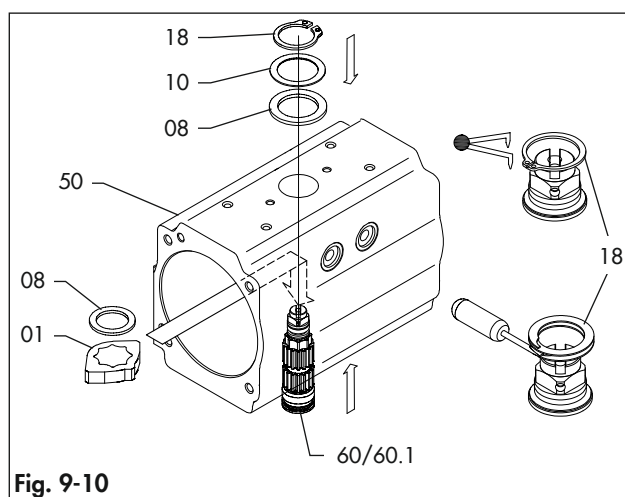
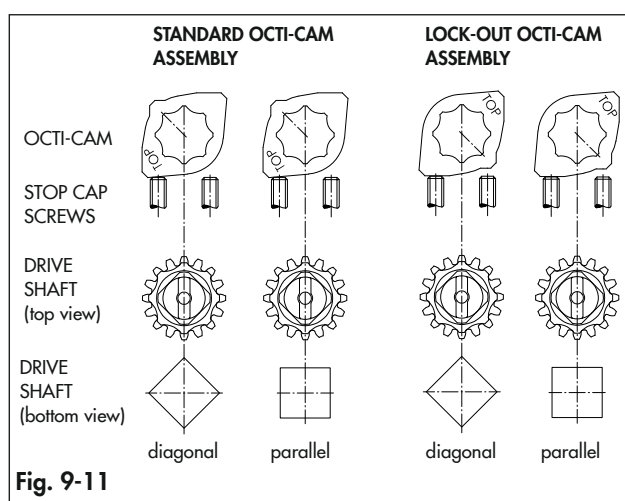

Fig. 9-10
Fig. 9-11
Refer to Fig. 9-1, Fig. 9-9, Fig. 9-10 and Fig. 9-11.
- Place the octi-cam (01) through the body (50) onto the drive shaft (60/60.1). Refer to the Fig. 9-11 for the correct placement of the octi-cam (01) depending on the actuator assembly configuration.
- Place the internal thrust bearing (08).
- Insert completely the drive shaft (60/60.1) into the body (50).
- Place external thrust bearing (08) and thrust washer (10).